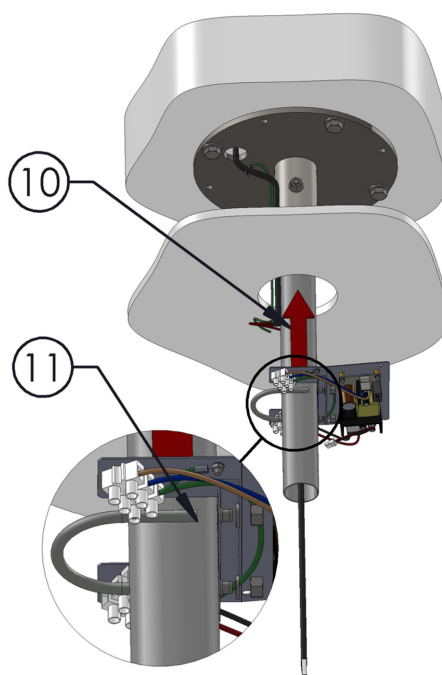

Fig. 10.0
10. Slide power supply into mounting position, as close to the ceiling as possible, as shown in Fig. 10.0.
11. Using the u-bolt, nuts and washers supplied, attach the power supply assembly to the ceiling tube, as shown in Fig. 10.0.